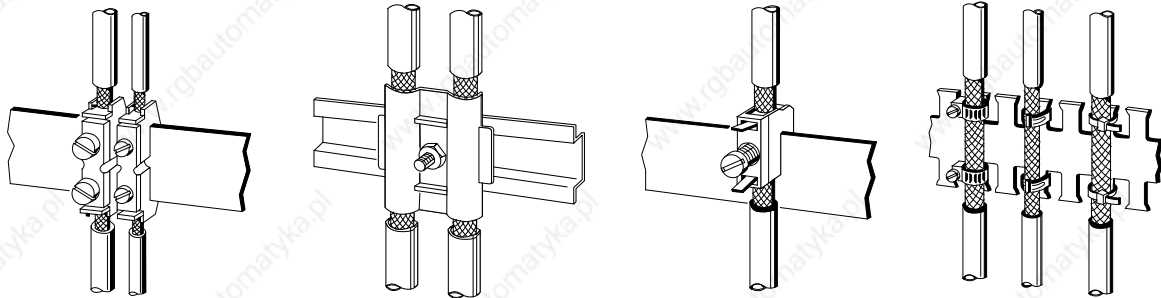

Figure 3-32. Fixing Shielded Cables with Various Types of Cable Clamps
- Use metal cable clamps for fixing the braided shield. The clamps have to enclose the shield over a large area and make good contact (see Figure 3-32).